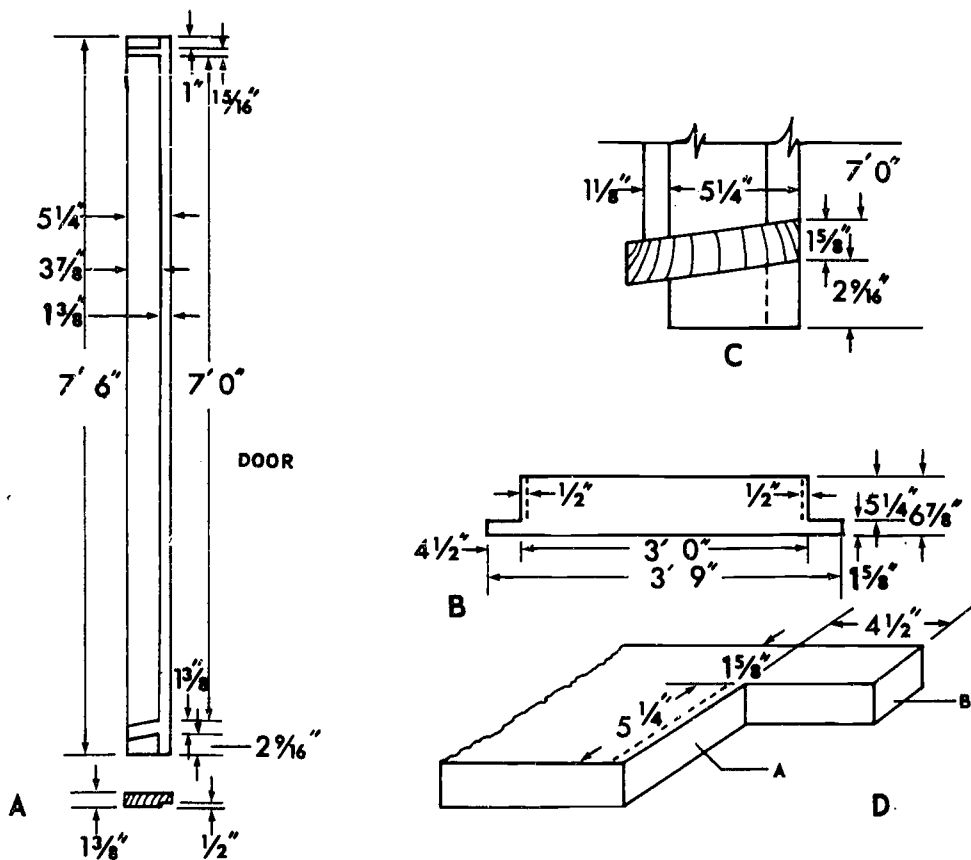

FIGURE 2
- (1) Length of side jambs are equal to height of door plus dados for head and sill and plus extensions beyond dados, or $7' 0'' + 13/16'' + 1 \frac{5}{8}'' + 1'' + 2 \frac{9}{16}'' = 7' 6''$ as shown in "A", Figure 2.
- (2) Width of side jamb is equal to thickness of studs in the wall plus thickness of outside sheathing and inside lathing and plastering as shown in "C", Figure 2. Total, $5 \frac{1}{4}''$.
- (3) Rabbet for door is $1 \frac{3}{8}''$ wide and $\frac{1}{2}''$ in depth when jambs are made $1 \frac{3}{8}''$ in thickness. If jambs are made of $13/16''$ material, they are not rabbeted, but a stop is used as in (h),
- (4) Length of head jamb will be the width of the door plus twice the depth of the dado in the jamb into which the head jamb enters, or $3' 0'' + (2 \times 1/2'') = 3' 1''$. Width is the same as for the side jambs $5 1/4''$.
- (5) Length of the sill will be equal to the width of the door plus twice the width of the outside casing, or $3' 0'' + 4 1/2'' = 3' 9''$. Width of the sill is $5 1/4''$ plus the thickness of the outside casing plus about $1/2''$ which projects beyond the face of the outside casing, or about $7''$ as in Figure 2, "C".
- (6) The sill will be relished at each end as shown in Figure 2, "B". A view of the cut on the end of the sill is shown in "D". The portion (a), which is $5 1/4''$ long enters the side jamb and the portion (b) extends under the outside casing on each side of the door opening. In some cases the jambs are dadoed into the sill.
- (7) Length of side casing will be slightly longer than the height of the door, or about $7' 2''$. Side casings will be cut in between the head casing and the sill. Width of the casings will be $4 1/2''$ and the thickness will be $1 1/8''$.
- (8) Length of the head casing will be equal to the width of the door plus twice the width of the side casings, or $3' 9''$.
- (9) Length of the drip mold will be the same, $3' 9''$.
The sill (c) is equal in length to the masonry opening, and is let into the jambs as shown in Figure 2. It is also relished as shown in Figure 4 at (d).